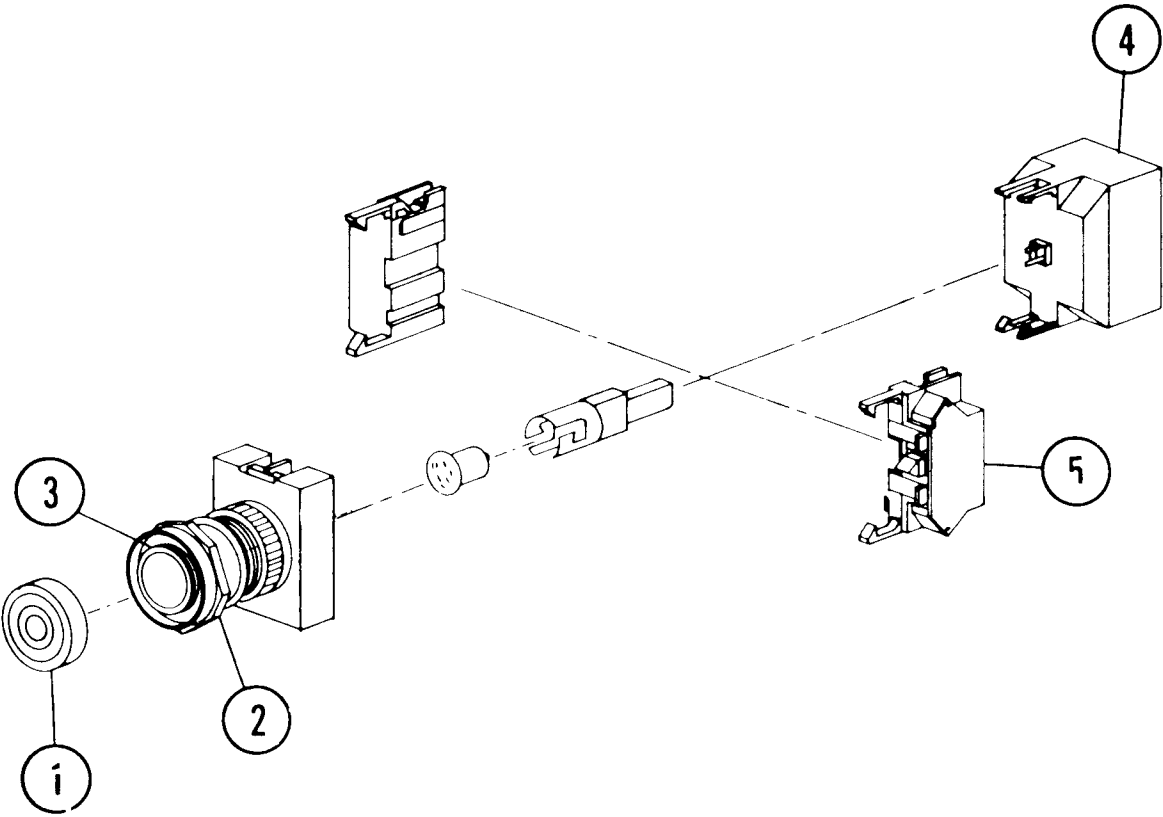

Figure 7.4.10
2. Disconnect two wires from float switch (10).
7.4.10 Power or Cycle Start Switch Repair (See Figure 7.4.10)